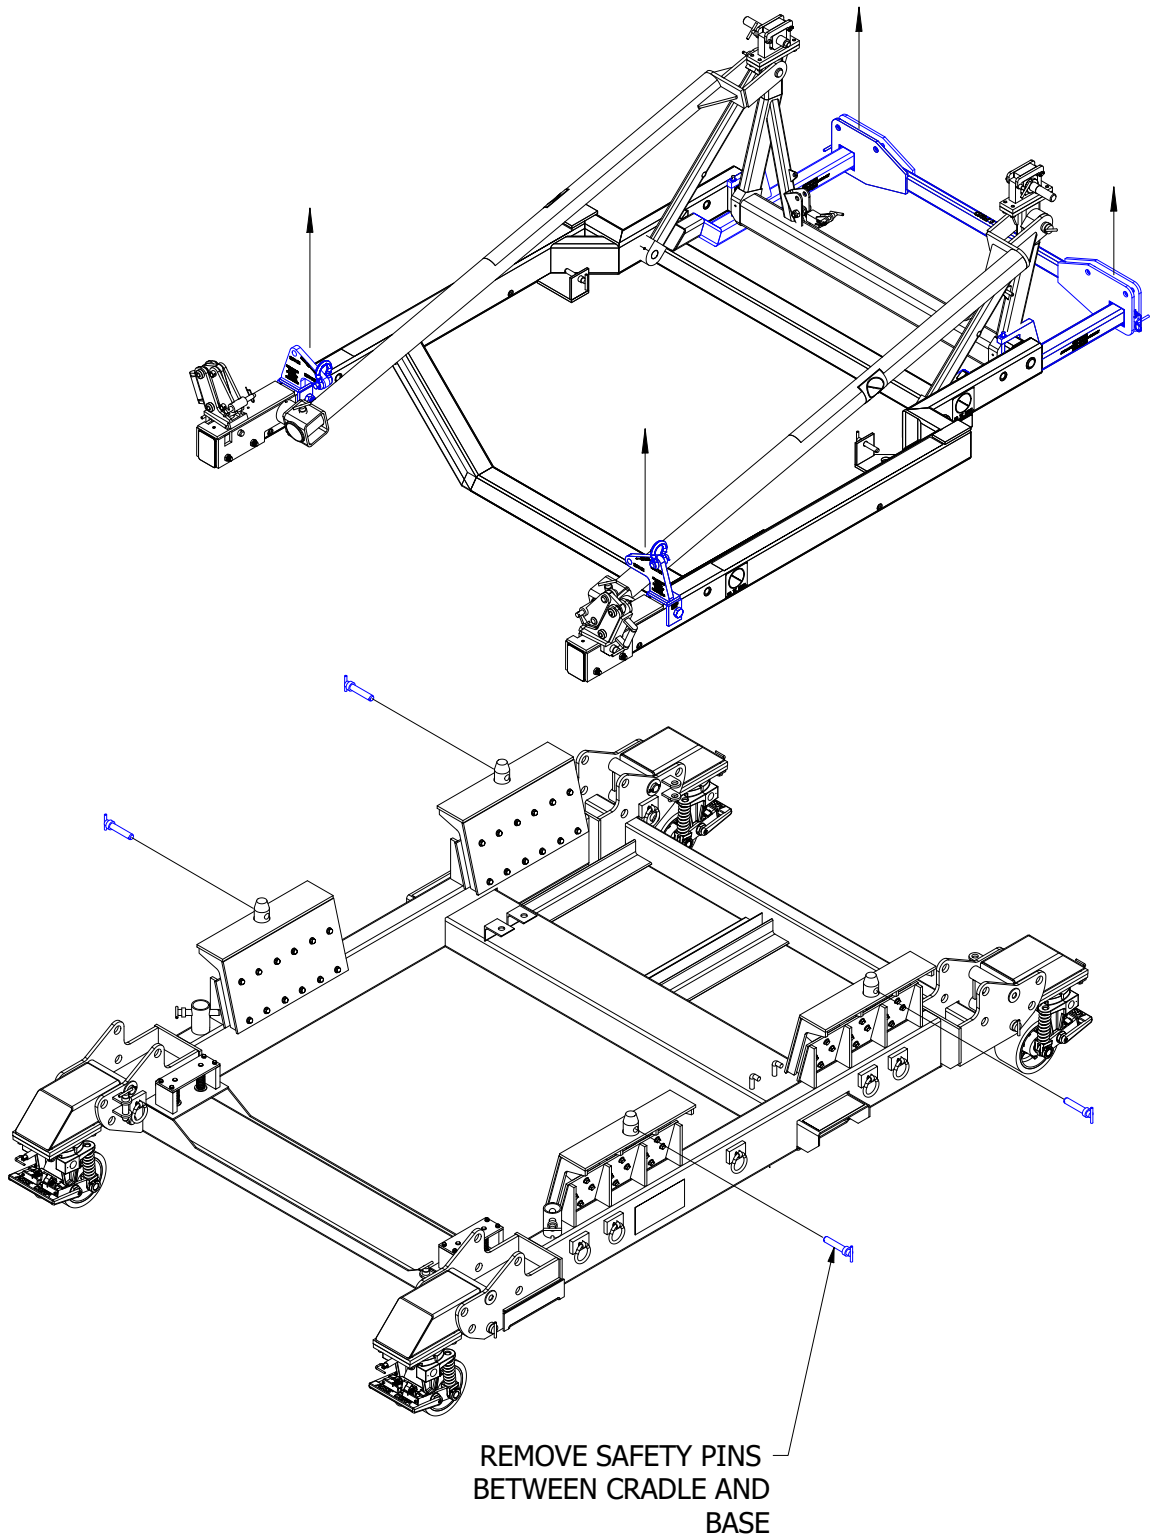

Figure 4.6-1 AM-1928-900 Bootstrap Kit for Boeing B747/767, 80C2/80A, 80A2 Engine
- 4). For the cradles AM-E1928-156-80C2-B and AM-1928-156-80A-B, install the AM-1928-900 bootstrap kits as shown in Figure 4.6-1.